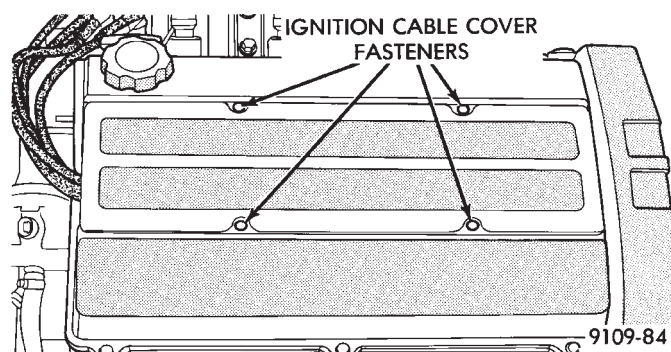

Fig. 7 Ignition Cable Cover
- (1) Remove air cleaner fresh air duct.
- (2) Remove ignition cable cover (Fig. 7).